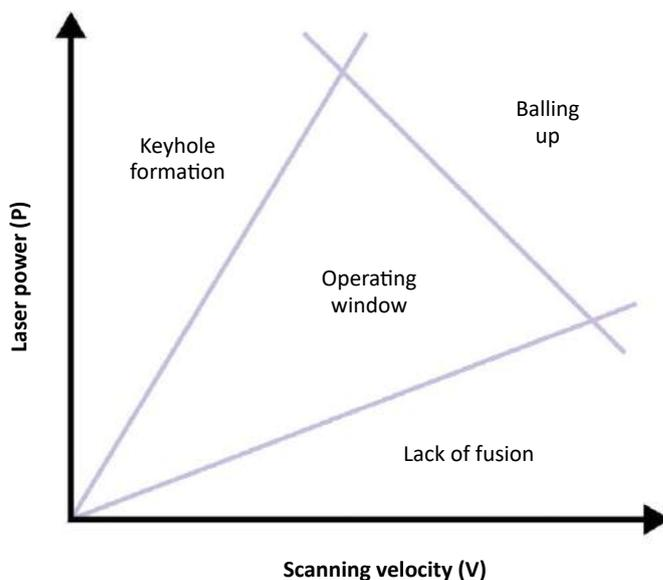

Fig. 3 Laser power vs scanning velocity graph – how process outcomes vary with parameter choices
Symposium in Chicago, April 2007 [1]. A helpful way to think about this is to plot our parameter choices in P-V space, plotting laser power (P) against scanning velocity (V). Our choice of parameters will affect the process outcome, as shown in Fig. 3. If we scan too fast with too little power, then we will see regions of the part which do not fully melt, leading to 'lack of fusion' porosity. By contrast, if we apply too much power for the chosen speed, then we may overheat the melt pool, causing deeper energy penetration and leading to an effect known as 'keyhole formation.'
Between these two extremes lies an operating window where we will achieve good part density. Here, the energy from our laser is sufficient to fully melt the powder and underlying metal without penetrating too deeply. Fig. 3 suggests that we can increase both power and speed together to build faster, and to an extent this is true. However, there is a limit to how hard and fast we can go, beyond which the weld pool behaviour becomes unstable and we get a beading effect known as 'balling up.' We also tend to see an increase in spatter formation at higher laser power.
The central operating window on the P-V diagram in Fig. 3 is where the right combination of speed and power generates a stable melt pool of the optimum size. It is where the laser energy is being efficiently absorbed by the powder, creating a melt pool of sufficient depth to fuse strongly with the layer below whilst avoiding excessive re-melting.